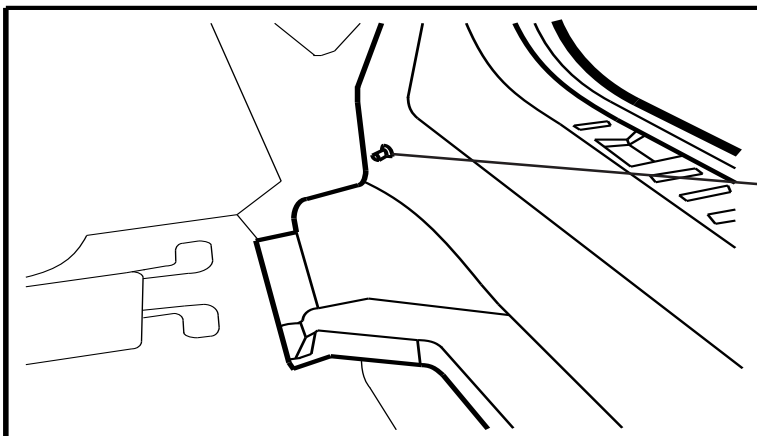

Fig. 7
13. Install the trunk sill plate. Exercise care to properly line up the vertical alignment pins located in the center of the sill. Align the weld studs with the holes in sill plate. Once the weld studs are through the holes pull sill plate back into position and push down to engage fasteners. (Fig. 7)